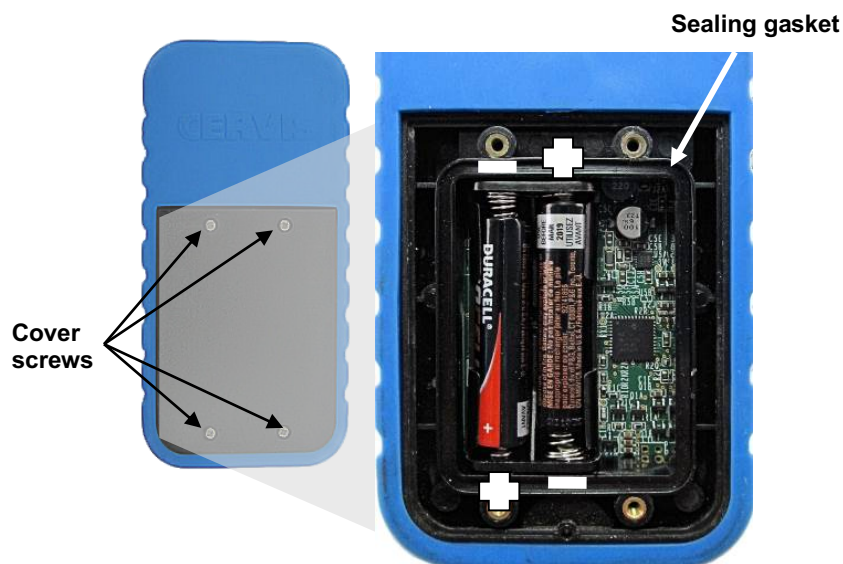

Figure 3 Remote Control Battery Installation
2. If installing batteries in an empty battery compartment, install two fresh size “AAA” cell batteries. Be sure to position the batteries as illustrated in Figure 3 below.
3. If replacing expired batteries, remove the old batteries, and install two fresh size “AAA” cell batteries. (Discard the used batteries according to local regulations.) Be sure to position the batteries as illustrated in Figure 3 below.